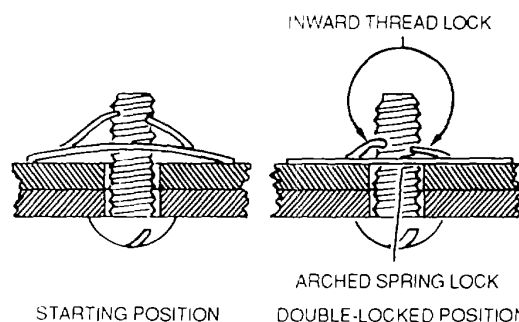

Figure 2-27. Sheet Spring Nut
g. *Sheet Spring Nuts.* Sheet spring nuts, NAS444, NAS445, NAS446, and NAS395, as shown in figure 2-27, are commonly called speed nuts. Use with standard and sheet metal self-tapping screws in various nonstructural locations. Speed nuts in supporting line clamps, conduit clamps, electrical equipment, access doors, and other similar items. Speed nuts are made from spring steel and are arched prior to tightening. The arched spring lock prevents the screw from working loose. They are easily inserted, and finger pressure keeps them from turning. The use of the wrenches is unnecessary. Use speed nuts only where originally used in fabrication of the aircraft.